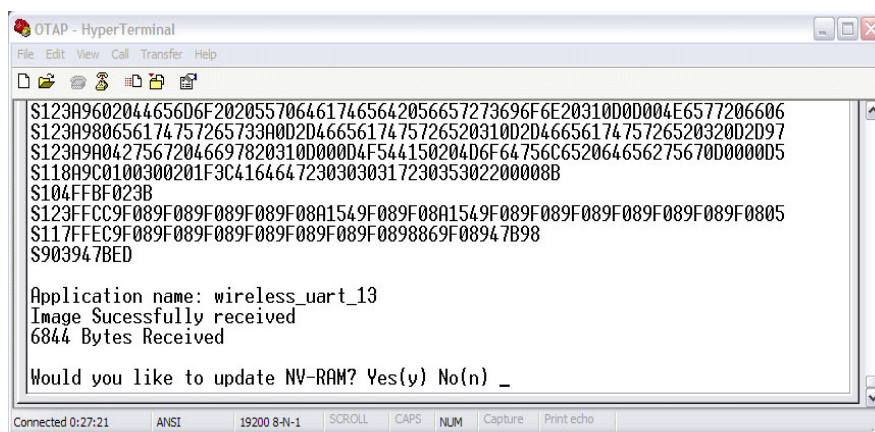

Figure 62. Image Download Complete
9. As shown in Figure 62, wait for the image to transfer until the following message appears: